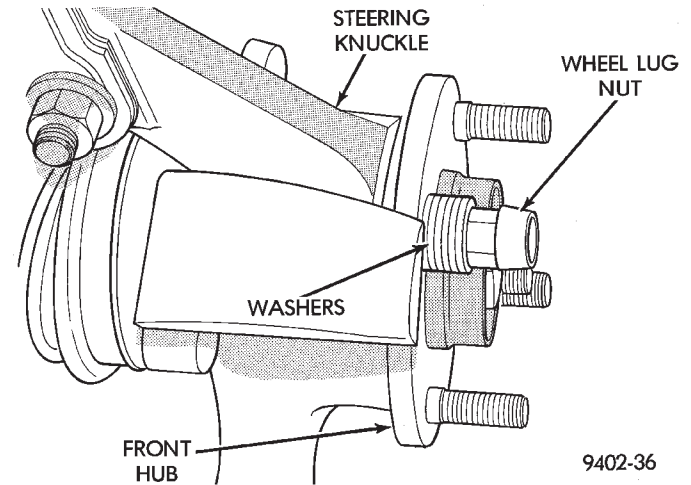

Fig. 83 Installing Wheel Stud Into Hub
(1) Install replacement wheel stud into flange of hub and bearing assembly. Install washers on wheel stud, then install a wheel lug nut on stud with flat side of lug nut against washers (Fig. 83).